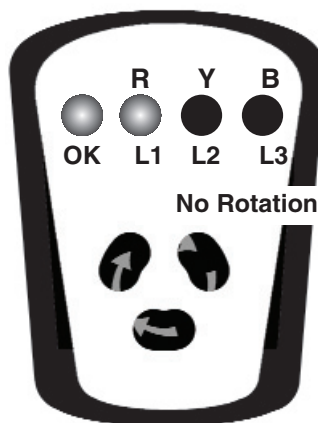
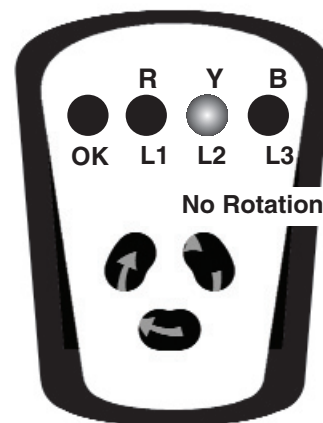

Figure 2.
Figure 3.
The faulty phase is indicated by one of the three neons lighting, e.g. should the neon marked R light, it indicates that the Red line is faulty (see Fig 2). Similarly, Yellow and Blue line faults are indicated by their respective neons being lit (see Figs 3 and 4). When the fault has been corrected, phase continuity will be indicated as Fig (1) or (5).